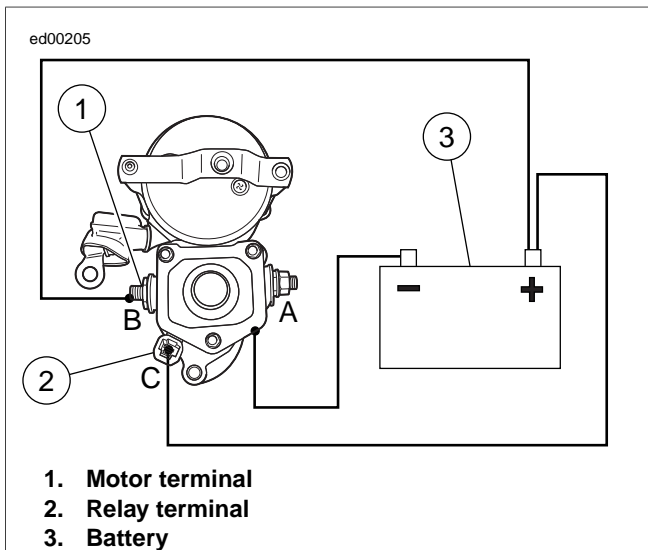

Figure 1-9. Hold-In Test
1. See Figure 1-9. With test leads still connected in the manner specified in 1.6 TESTING STARTER ON BENCH, Solenoid Pull-In Test, disconnect solenoid motor terminal/battery negative test lead at negative battery post only; reconnect loose end of this test lead to positive battery post.